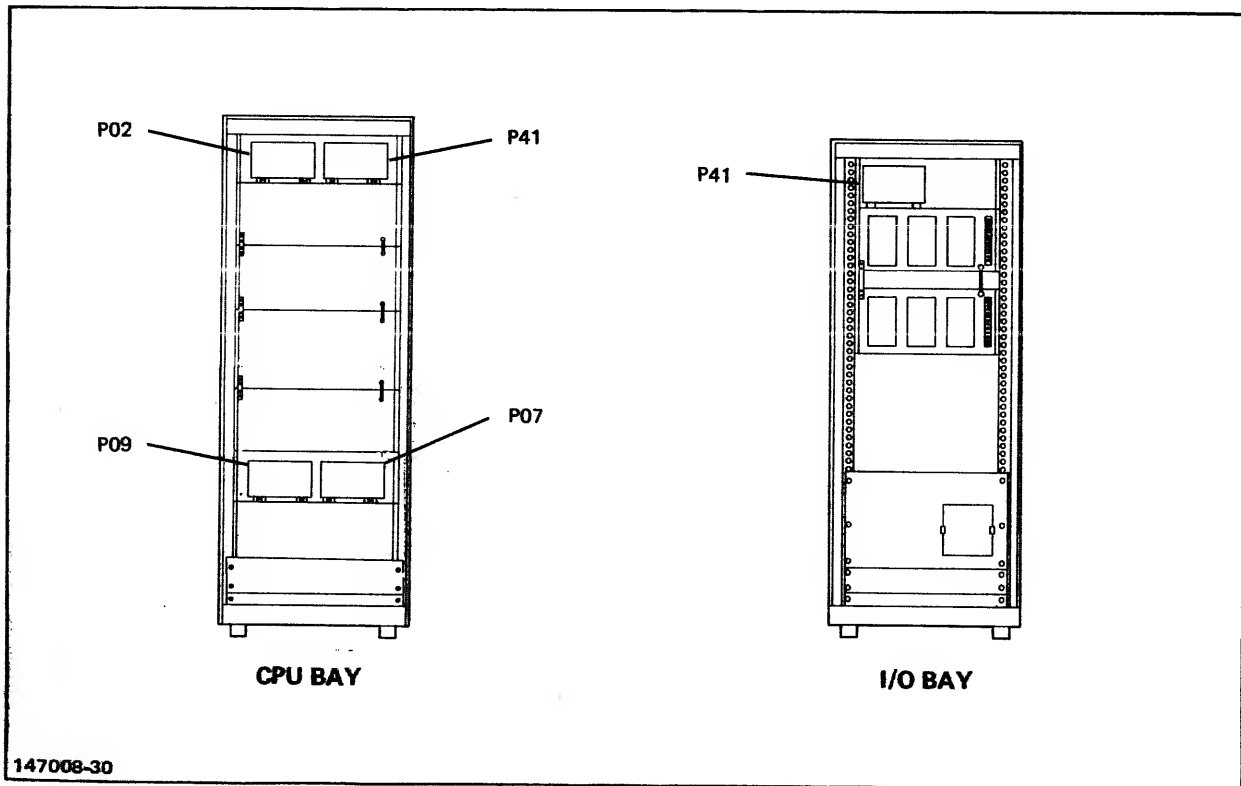

Figure B-2. Rear View of System Bays Showing Location of System Power Supplies
Figure B-2 illustrates the locations of the system power supplies. Table B-1 lists the associated LED's and test points for the outputs of the power supplies. Table B-1 also lists the permissible minimum and maximum voltage levels at the test points.
5. Use figure B-2 to determine the location of the faulty power supply.